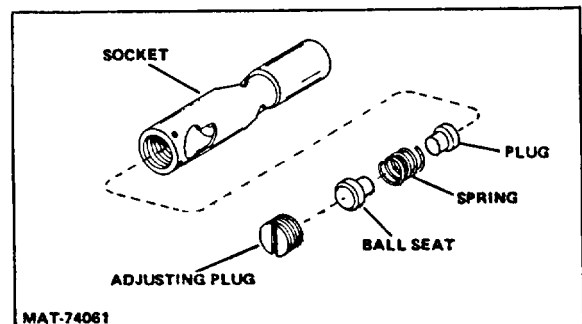

Figure 2-5. Socket Unit
1. Remove the adjusting plug, ball seat, spring and safety plug. Inspect for excessive wear or damage. Replace worn parts as necessary (Fig 2-5).